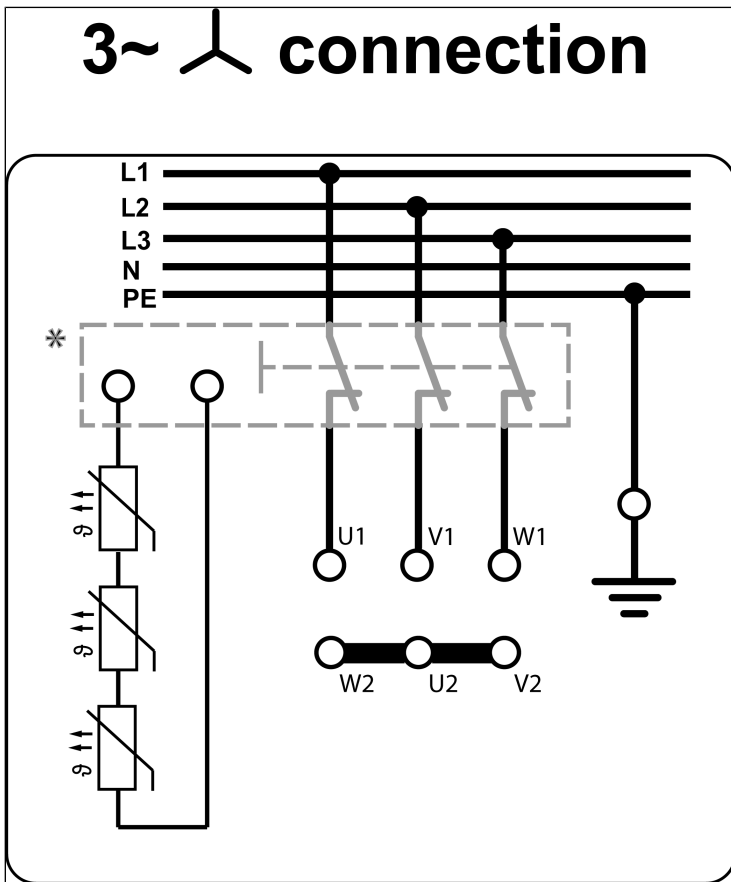
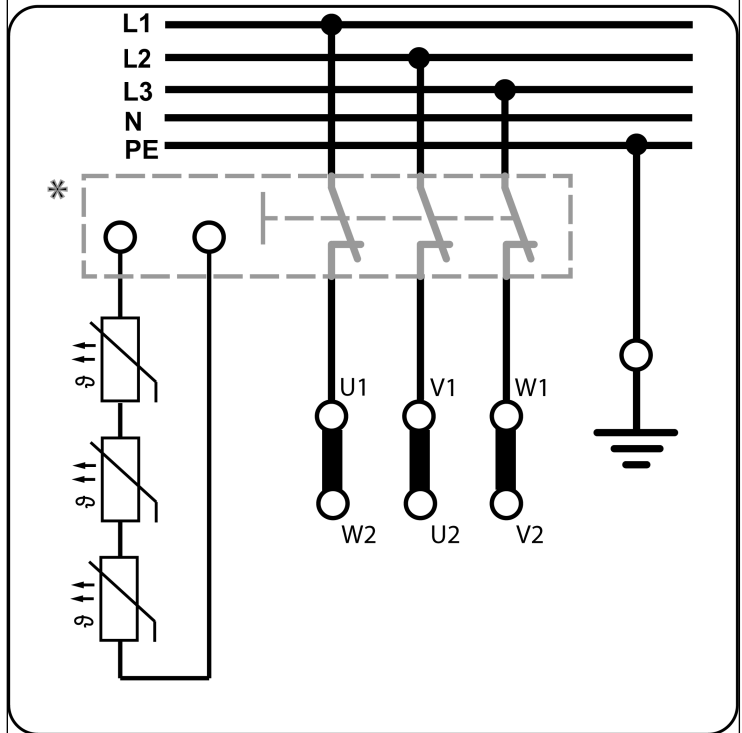
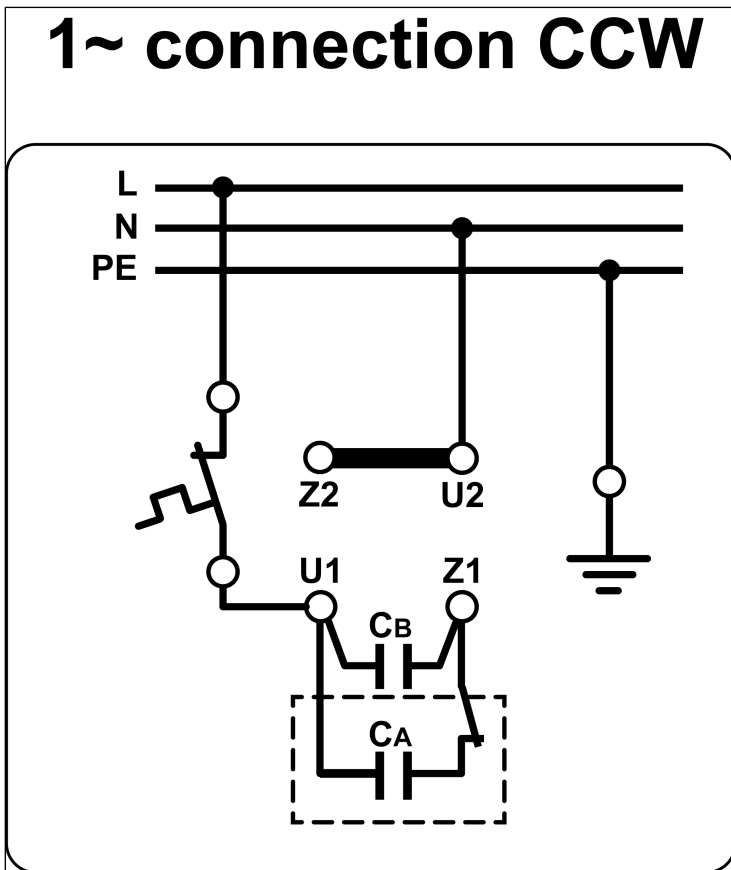

Fig.9: Star connection (three-phase motor; high voltage)
Fig. 10: Δ-connection (three-phase motor; low voltage)
Fig.11: Electrical connection
4. Connect the cables according to the electrical voltage Fig. 9 and Fig. 10 (three-phase motor) or Fig. 11 (capacitor motor).
- KNF recommends thermally protecting the PTCs at the customer's premises with a motor protection switch or a motor protection relay (see \* in Fig. 10 and Fig. 9).
- KNF recommends connecting the thermal switch at the customer's premises according to Fig. 11.